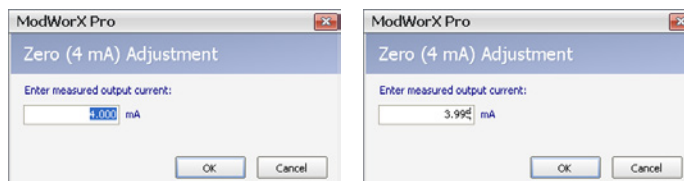
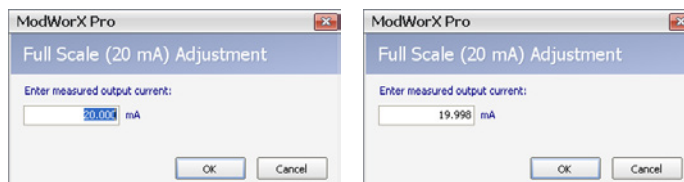
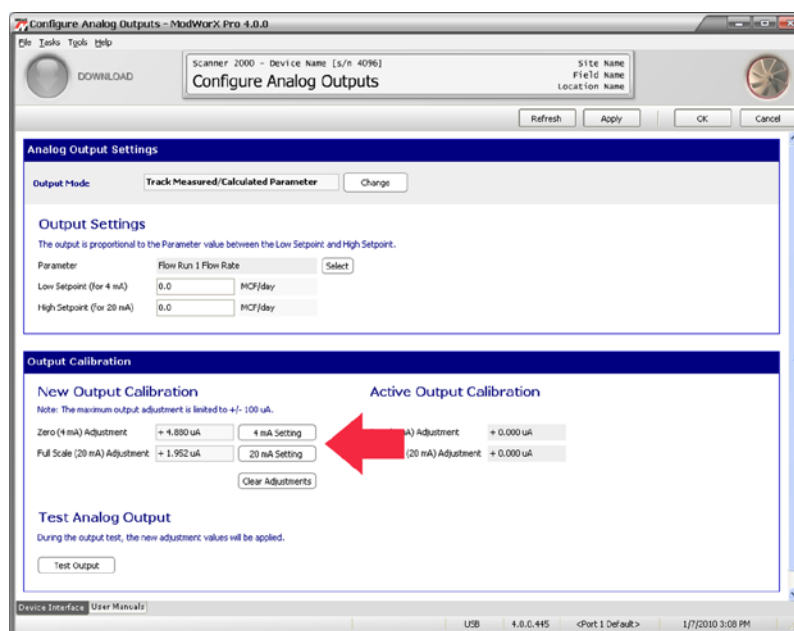

Figure 7.26
Figure 7.27
Figure 7.28
3. Under New Output Calibration, click on the **4 mA Setting** button to send a 4 mA signal from the Scanner to the receiving device. The Zero (4 mA) Adjustment dialog will appear (Figure 7.26, left).
4. Read the output value as read by the receiving device, and enter it in the screen (Figure 7.26, right). Click **OK** to calculate the adjustment. The adjustment will appear in the box next to the 4 mA Setting button (Figure 7.28).
5. Click on the **20 mA Setting** button to send a 20 mA signal from the Scanner to the receiving device. The Full Scale (20 mA) Adjustment dialog will appear (Figure 7.27, page 104, left).
6. Read the output value as read by the receiving device, and enter it in the screen (Figure 7.27, right). Click **OK** to calculate the adjustment. The adjustment will appear in the box next to the 20 mA Setting button (Figure 7.28).